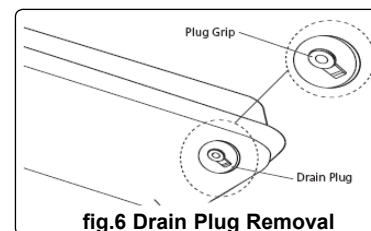

fig.6 Drain Plug Removal
- 6.2.1** For long term storage the fuel tank will need to be drained. The tank should be flushed every 200 hours of operation or as required. There is a drain plug on the underside of the fuel tank (fig.6). To remove the plug pull down the plug grip and remove the seal head from the drain hole. Drain the fuel into a suitable container. Using a small amount of fresh paraffin, rinse and swirl the paraffin inside the tank and then drain fully.